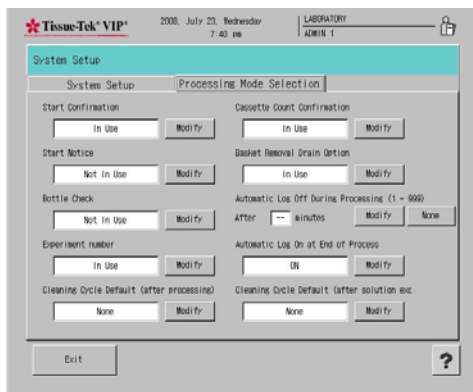

Figure 3-T
- The Processing Mode Selection screen displays (Figure 3-T)